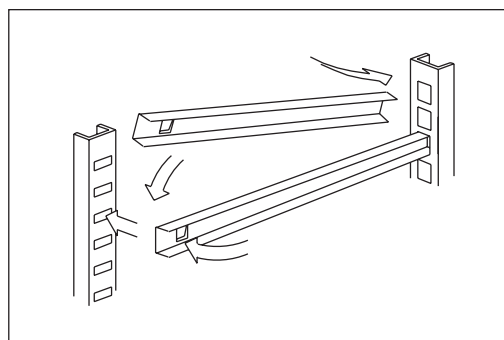

Fig.6
- position the grille holding guide fails in the holes of the racks (Fig. 6)